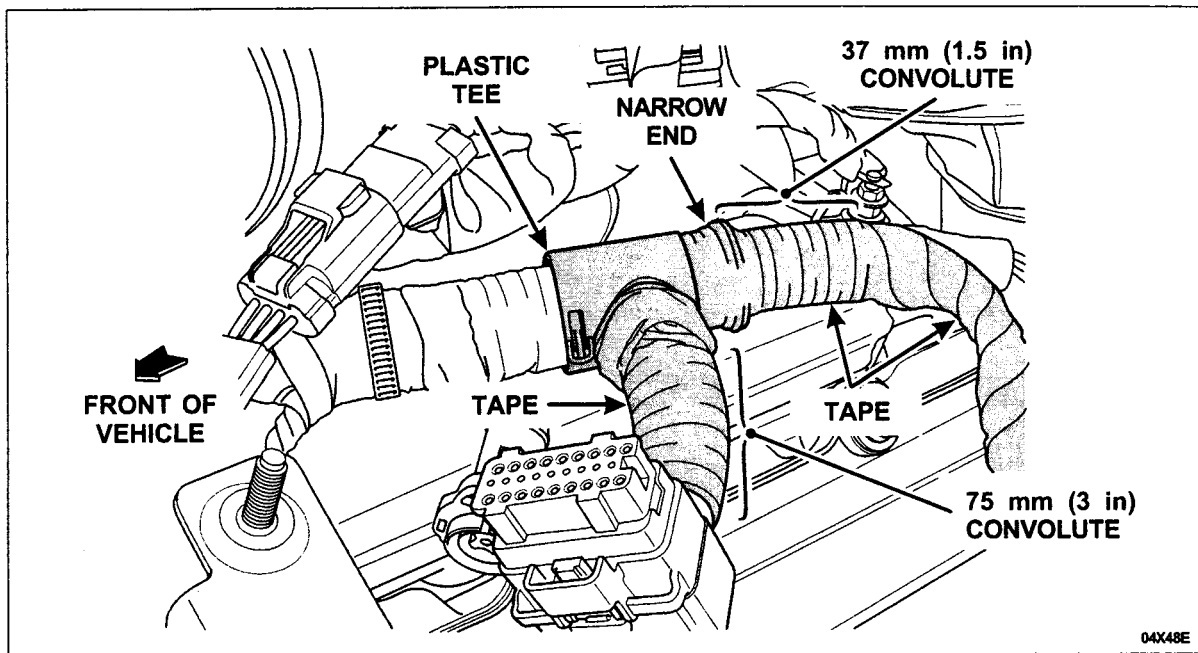

FIGURE 6
2. Position and install the plastic TEE over the forward harness take-out with the narrowed end toward the rear of the vehicle. Do not latch the TEE closed at this time. See Figure 6.
3. Cut two (2) pieces of 11/16" convolute: one (1) approximately 75 mm (3 inches) long, the other about 37 mm (1.5 inches) long. See Figure 6.
4. Position the 75 mm (3 inches) section of convolute over the harness takeout from the plastic TEE to the FICM connector. See Figure 6.
5. Position the 37 mm (1.5 inches) section of convolute between the two (2) harness take-outs. See Figure 6.
6. Close the TEE around the harness and over the convolute, making sure that all four (4) latches are engaged. See Figure 6.
7. Using the supplied tape, secure the plastic TEE, both sections of convolute and the connector covers. See Figure 6.